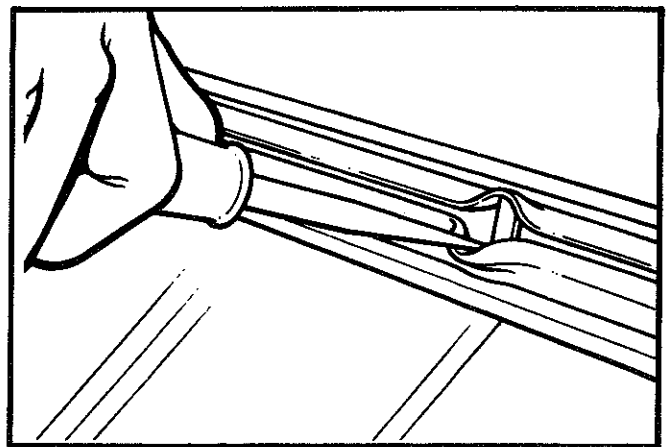

Fig. 20—Spreading weather strip
(3) Insert the screw driver into the moulding groove of the weather strip and spread the weather strip as shown in Fig. 20.